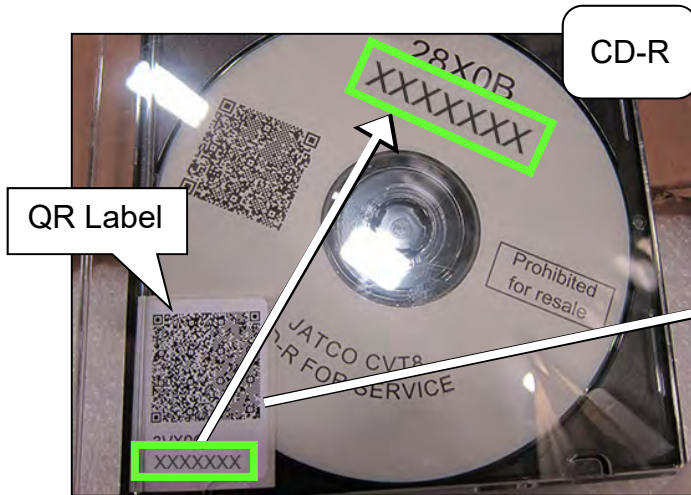
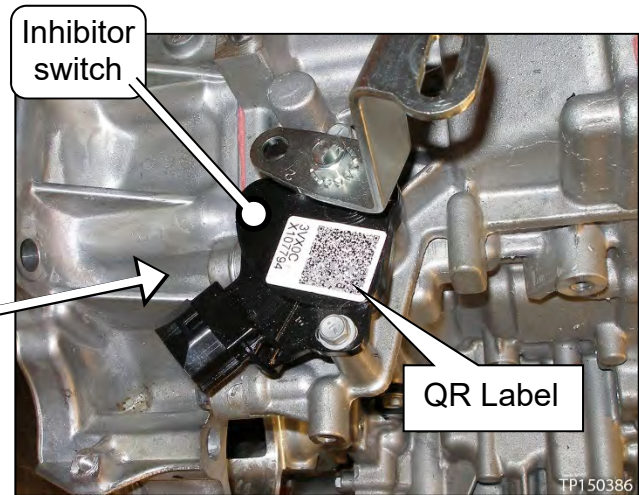

Figure 30
Figure 31
23. Attach the QR label (Figure 30) with the new calibration data onto the transmission range switch (inhibitor switch Figure 31).
- o Confirm that the QR label and the CD-R part numbers are the same (Figure 31).